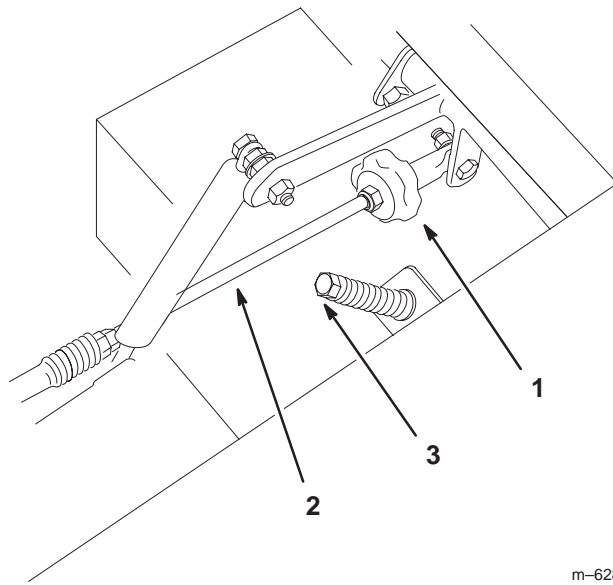

Figure 45
2. Adjust pump rod length by rotating the knob, in the appropriate direction, until the wheel is still or slightly creeping in reverse (Fig. 45).